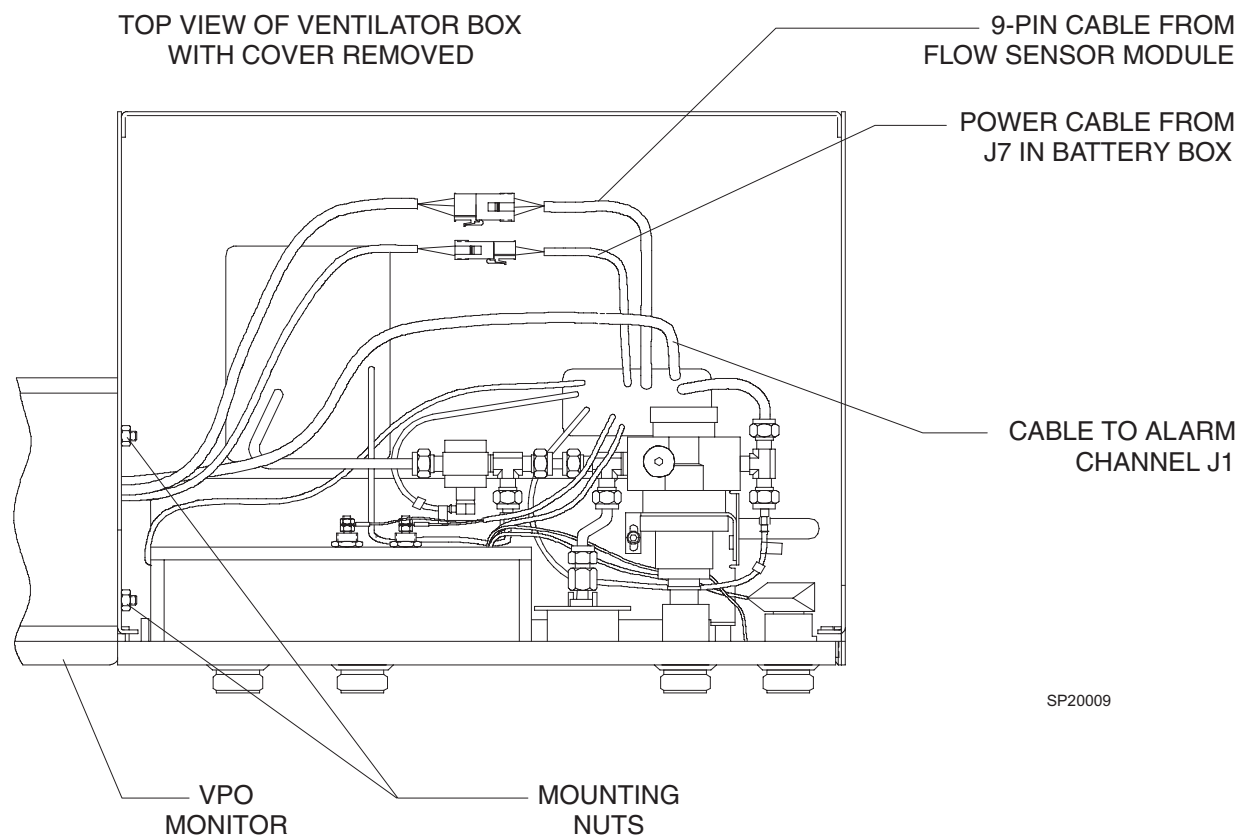

FIGURE 9. VPO Monitor Installation
70. Hold the VPO monitor (P/N 4116091) facing forward, at the left side of the vent box, and feed the cables from the monitor through the large hole in the side of the ventilator housing. See Figure 9.
86. Join the 4-pin male connector on the VPO power cable to the 4-pin female connector from the VPO monitor. See Figure 9.